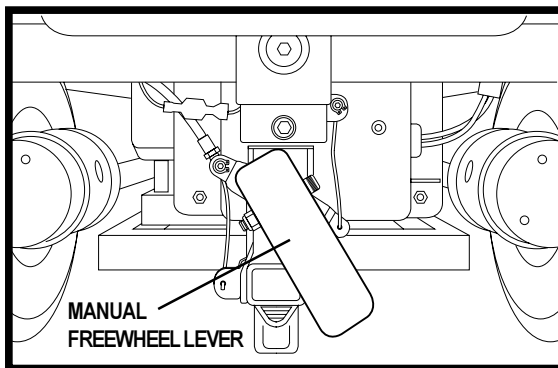

Figure 5. Freewheel Mode (Drive Disengaged)
For your convenience, your power chair is equipped with one of two manual freewheel levers. See figures 5, 5a, 6, and 6a. These levers allow you to disengage the drive motors and maneuver the chair manually.
1. Pull the manual freewheel lever out and rotate clockwise for freewheel mode (drive disengaged.) See figure 5.